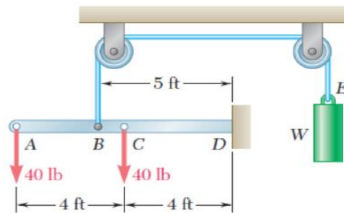

Figure 1
1. For the beam and loading shown in Fig. 1, determine the range of values of W for which the magnitude of the couple at D does not exceed 40 lb ft.